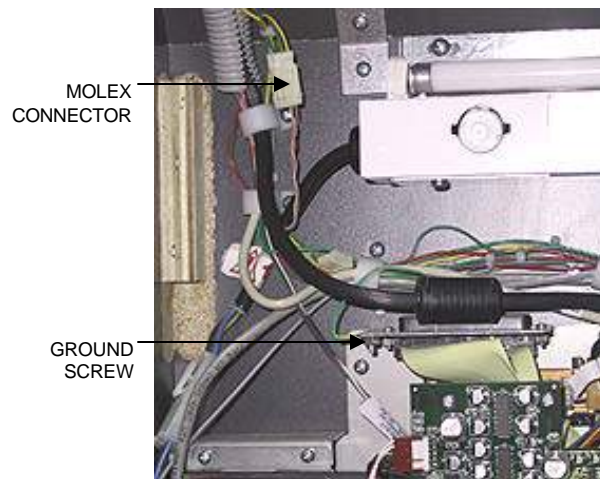

FIGURE 7 - FUSION WITHOUT ELECTRONICS BOX - CLOSEUP OF CPU SECTION
5. If the monitor has a new touchscreen, connect the touchscreen controller cable in the back of the controller and secure the controller in the game with the existing hardware. Then connect the Molex connector (orange and gray wires) to the main power harness and attach the ground screw. Replace the cables in the clamps as before. See Figure 7.